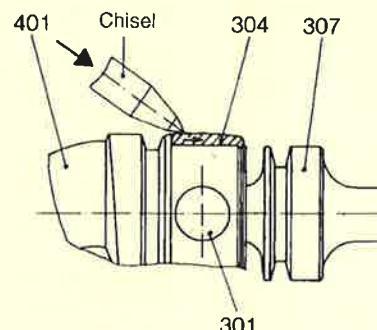

Figure 3: Dismounting the joint sleeve
- Lift the joint sleeve (308) with a screwdriver and pull it off axially towards the joint shaft (307).
- Drive the joint sleeve (304) across the collar of the joint shaft (307). Do not deflect the joint shaft (307) (see figure 3).